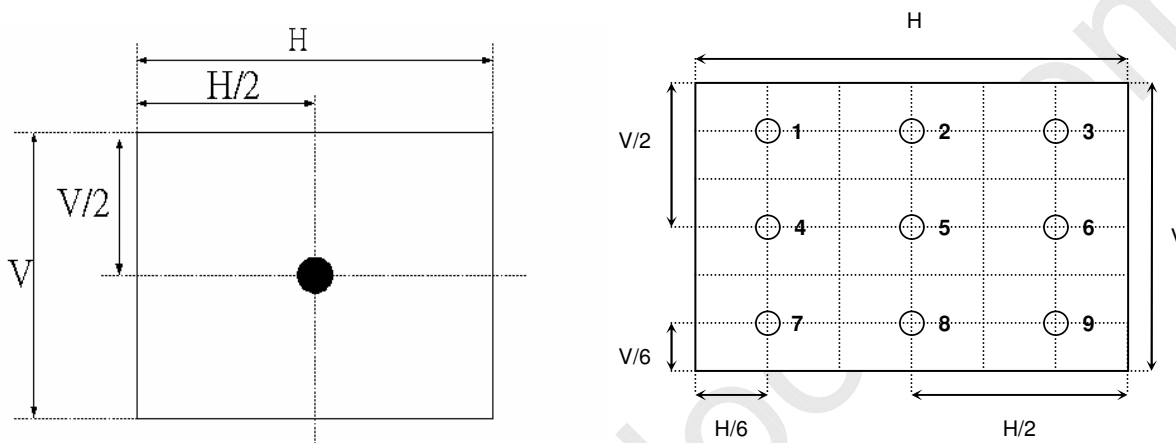

Fig.4-2 Optical measurement point
2. Surface Luminance is luminance value at point 5 with 100% dimming across the LCD surface 50cm from the surface with all pixels displaying white. For more information see Fig. 4-2. When power consumption=190 W,  $L_{WH}=L_{on5}$ , where  $L_{on5}$  is the luminance with all pixels displaying white at center 5 location.